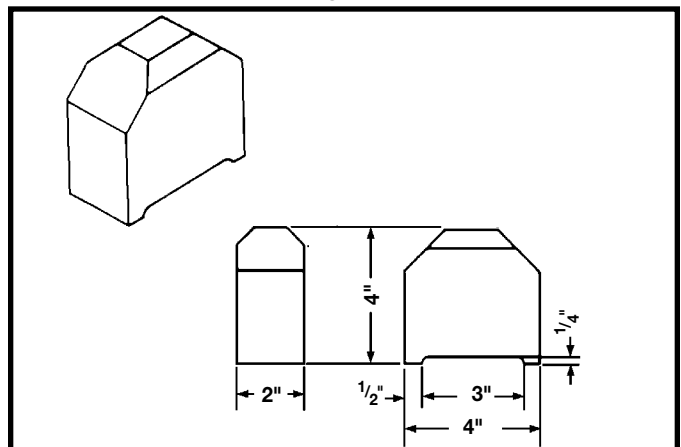

Fig. 33
1. The outfeed roller is adjusted at the factory to be 0.020" below the cutting circle. In order to check and adjust the outfeed roller, you will need a homemade gage block made of hardwood. This gage block can be constructed by following the dimensions shown in Fig. 33. **NOTE: Make sure that the height of the block is exactly 4 "**